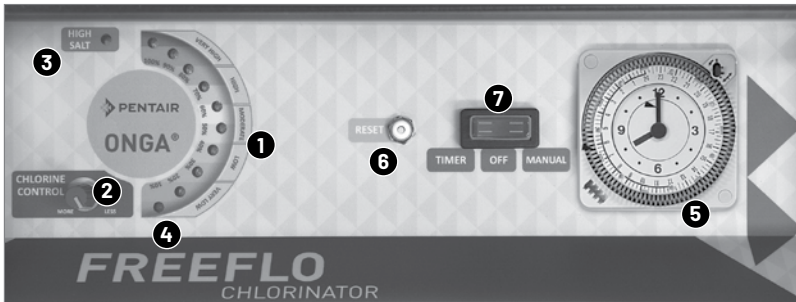

Fig.7
All Pentair Onga FREEFLO Chlorinators are fitted with a 240v 10A power socket located on the right hand underside of the power pack. Your pool pump should be plugged into this socket so that the chlorinator and pump activate together when the timer switches on at the allocated time settings or in a model without a timer the pump and chlorinator is controlled by the on/off switch. (7 in fig 7). Failure to plug the pool pump into this socket could lead to the chlorinator staying on with no water circulation. In case of water probe failure, over heating and a possible gas build up may occur. Please see fig.7 below in regards to function control.
1. Chlorine Output LEDs - If the correct salt level is in the pool then all 10 lights will illuminate. Each light represents 10% chlorine output. If all lights are not illuminated then a higher salt level will be required. Make sure all salt is dissolved properly before adding more. The chlorine control, (2 in fig. 7), will increase or decrease the chlorine output to suit your chlorine demand. If all of the indicator lights flash then there is a water fault problem.
4. Polarity Light - The polarity light is the first indicator light, 10% in the chlorine output array, (4 in fig.7). This light will alternate between orange and green every reversing cycle, 4-12 hours. Factory setting is a 12 hour cycle.